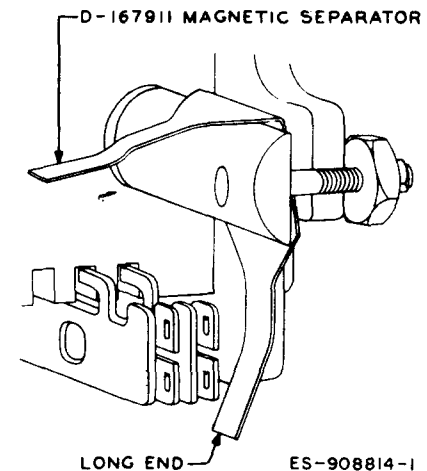
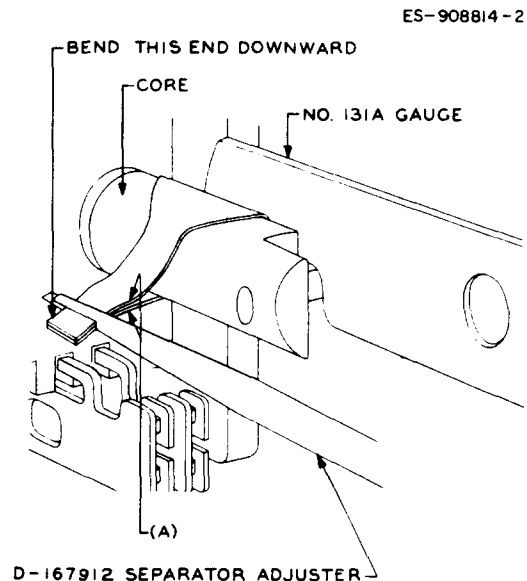
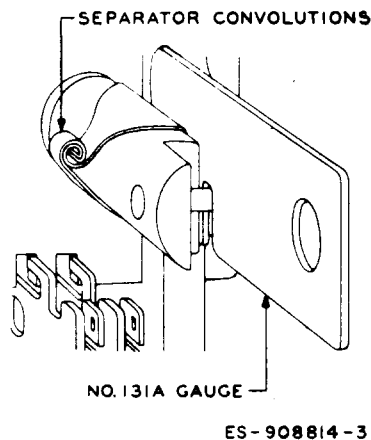
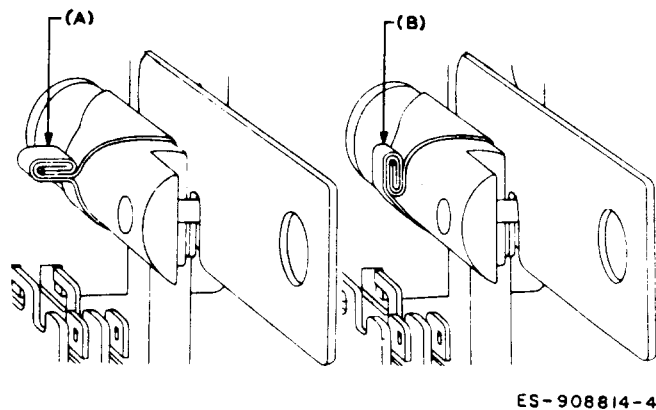

Fig. 4—Method of Inserting D-167911 Magnetic Separator in Armature Gap
Fig. 5—Method of Using D-167912 Separator Adjuster
Fig. 6—D-167911 Separator Convolutions After Removal of D-167912 Separator Adjuster
Fig. 7—Flattening of Separator Convolutions
(1) To remove the magnetic separator from the core, insert the 3-inch C screwdriver between the convolutions of the separator and the core and pry the convolutions open. Remove the separator with the fingers.
(2) To place a magnetic separator on the core, insert the long end in the armature gap from the top and pass it down between the core and the armature until the bend of the separator rests approximately on the top edge of the core pole face as shown in Fig. 4. With the front edge of the separator close to the adjusting stud, insert the 0.020-inch blade of the 131A gauge into the armature gap as shown in Fig. 5, and electrically energize the relay. While holding the relay manually operated, disconnect the current from the relay, and with the gauge in place, pull the separator downward with the 485A pliers until the bend of the separator fits snugly against the upper edge of the core pole face. Hold the separator in this position and electrically energize the relay so the gauge presses the separator firmly against the core pole face. With the KS-6320 orange stick bend the lower end of the separator around the lower end of the core so it clears the relay springs. Grasp the lower end of the separator with the 485A pliers and pull it toward the left in line with the lower edge of the core, at the same time rubbing the separator with the orange stick to shape it around the lower edge of the core. Release the relay and slide the separator to the rear of the core pole face.
(3) Electrically energize the relay against the 131A gauge inserted in the armature gap. Shape the separator around the core with the orange stick and fingers so the two narrow bands
come nearly together at (A) Fig. 5. Place the flat surface of the long point of the D-167912 magnetic separator adjuster against the underside of the bottom band of the separator and press upward with the adjuster, at the time pressing down on the upper band of the separator with a forefinger. When the two bands contact, push the adjuster forward so the two bands slide into the slot. Move the adjuster to the left until the length of the separator extending to the left of the adjuster is only slightly greater than the
width of the adjuster as shown in Fig. 5. Hold the adjuster so both ends of the separator coincide and bend the tips of the separator which project through the adjuster downward with a finger or orange stick. Then holding the adjuster horizontally in line with the core, move the handle of the adjuster slightly to the left so the side of the tapered end of the adjuster nearest the core is parallel to it. Then twist the adjuster in a clockwise direction until the ends of the separator are firmly wound together concentrically and the separator fits snugly all around the core as shown in Fig. 6. With the relay still energized, lift the gauge off the stud and with a rotary motion move it up and down between the armature and the separator two or three times to flatten out the entire surface of the separator against the pole face. Again rotate the adjuster to ensure that the separator is tight. Then hold the separator in place with a finger tip and withdraw the adjuster. Flatten the convolutions of the separator with the 485A pliers as shown at (A) Fig. 7; then fold the flattened convolutions in a clockwise direction with a finger or the orange stick against the rear of the core as shown at (B) Fig. 7. Again rotate the 131A gauge. Release the relay and remove the gauge.